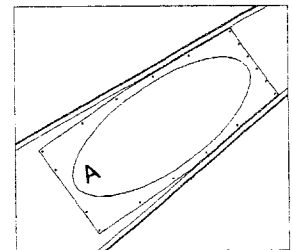

Figure 3. RFR24 Template Location
Step 1: Using the loose flange from the fan assembly as a template, position the desired roof fan location, allowing for 1/4" between the roof sheet rib and the flange and mark the 18 - 3/8" mounting holes and elliptical fan mounting hole. From point A (bottom of ellipse) to bottom of roof sheet, there must be at least 28" of clearance. (See Figure 3.)